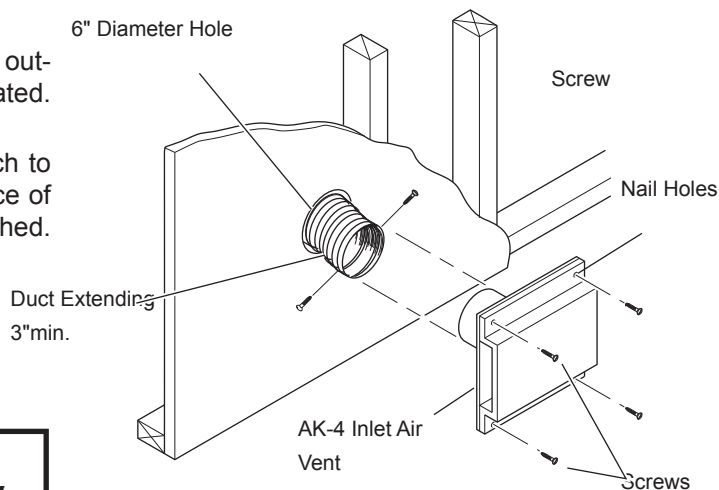

Figure 20 - Combustion Air Assembly for Model No. AK-4
5. Cut a 6-inch diameter opening for model AK-4 in the outside wall covering where the outside vent is to be located. *Figure 20.*